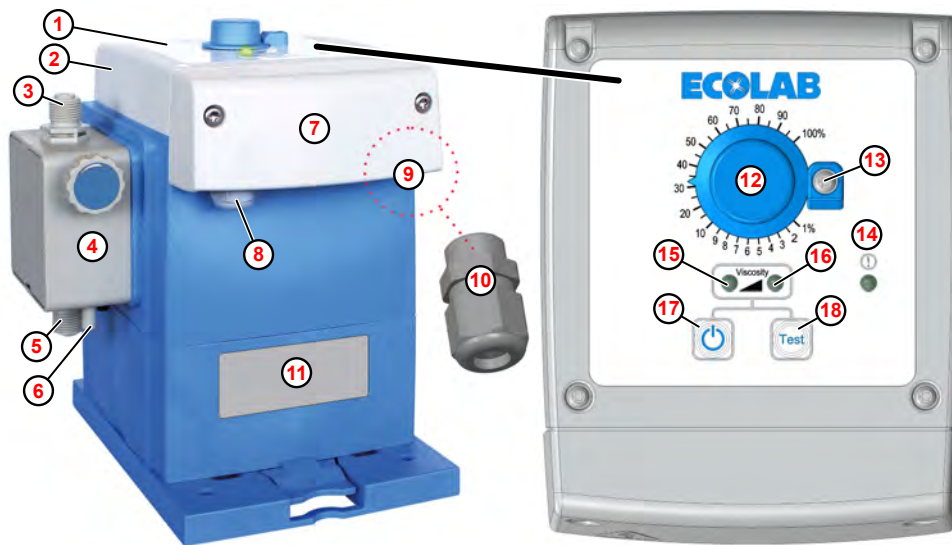

Fig. 1: Layout, operating elements and cable bushings EcoPro
- ⑰ On/Off switch
- ⑱ Test button
For the cable connection of the enable signal, a screw coupling (M12 x 1.5) is supplied with the pump (Fig. 1 , ⑩).